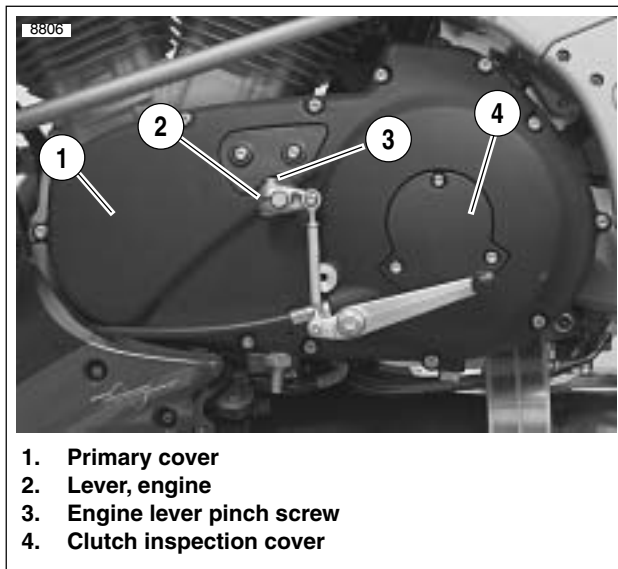

Figure 6-7. Installing Primary Cover
11. See Figure 6-7. Install clutch inspection cover (4) with **new** gasket and three TORX screws with washers. Tighten screws in a crosswise pattern to 84-108 **in-lbs** (9.5-12.2 Nm).